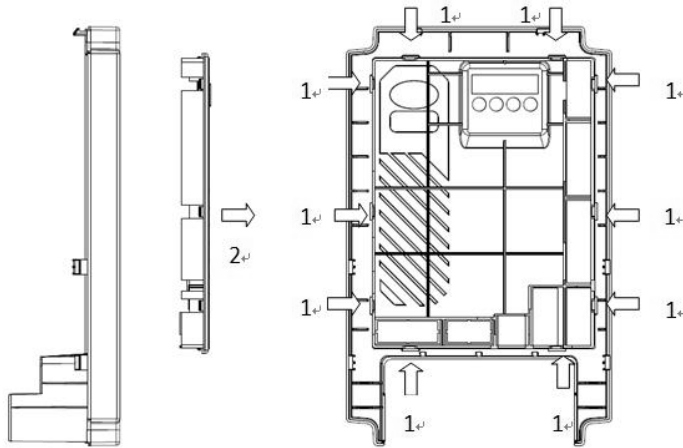
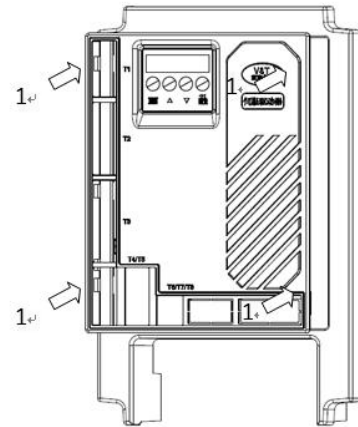

Figure 2-9 Remove the surface
Figure 2-10 Install the surface
- ① Press all the hooks of the surface shell in the direction 1 in Figure 2-9 to separate the hooks of the surface shell from the groove of the upper cover.
- ② Pull the surface shell outward in the direction 2 to remove the surface shell.
- ③ As shown in Figure 2-10, align the surface shell with the upper cover clamp and press down on the surface shell with force in direction 1. Ensure that all hooks on the surface shell are inserted into the slots of the upper cover.